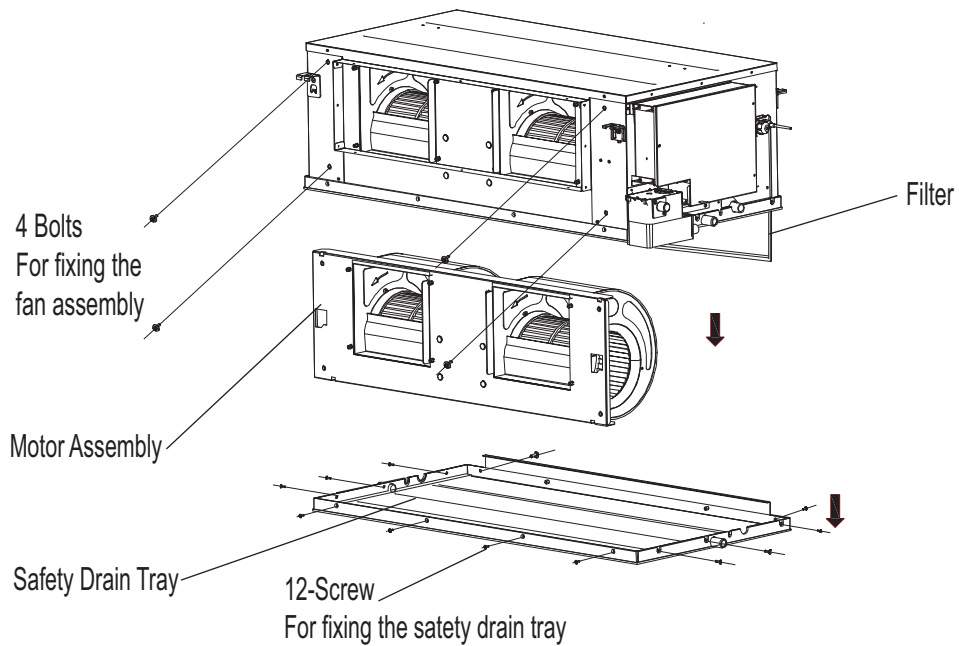

Fig. 41 —Fan Disassembly (048-054)
1. Remove all 12 screws from the Safety Drain Tray, and remove the safety drain tray. See Fig. 41.